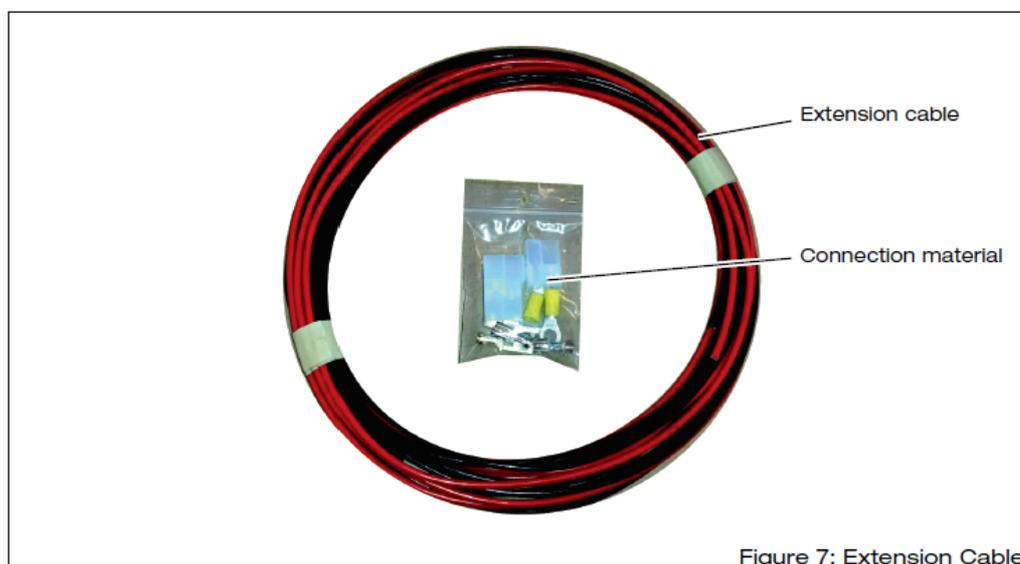

Figure 7: Extension Cable
If necessary, lay the extension cable provided between the voltage transformer and the control unit (see Figure 7).
- If necessary, use the provided extension cable (see Figure 7, page 16).